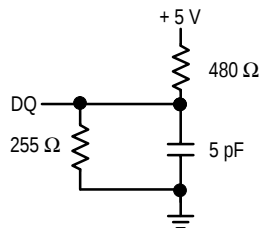

Figure 1B
6. Transition is measured ± 500 mV from steady-state voltage with output load of Figure 1B. This parameter is sampled and not 100% tested.
4. Transition is measured  $\pm 500$  mV from steady-state voltage with output load of Figure 1B. This parameter is sampled and not 100% tested. At any given voltage and temperature,  $t_{KHQZ}$  is less than  $t_{KHQX}$  for a given device.
6. Transition is measured  $\pm 500$  mV from steady-state voltage with output load of Figure 1B. This parameter is sampled and not 100% tested. At any given voltage and temperature,  $t_{KHQZ}$  is less than  $t_{KHQX}$ ,  $t_{POEHQZ}$  is less than  $t_{POELQX}$  for a given device, and  $t_{SOEHQZ}$  is less than  $t_{SOELQX}$  for a given device.
3. Transition is measured  $\pm 500$  mV from steady-state voltage with output load of Figure 1B. This parameter is sampled and not 100% tested. At any given voltage and temperature, tPOEHQZ is less than tPOELQX, tSOEHQZ is less than tSOELQX, and tKHQZ is less than tKHQX for a given device.